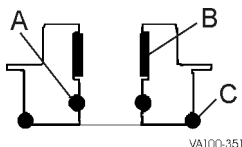

Figure 14 - Adapter O-rings and Bearing
2. Remove and replace the o-ring (Figure 14, item A) inside the adapter.
3. Check the split bearing (Figure 14, item B) inside the adapter by feeling the amount protruding from the adapter wall. If the bearing is flush with the wall, replace the bearing.
2. Slide or cut the outer o-ring (Figure 14, item C) off the adapter. Do not nick or scratch the o-ring groove.